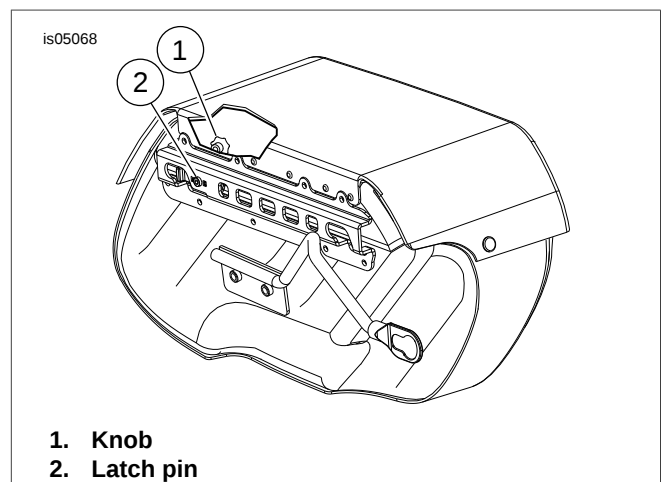

Figure 5. Saddlebag Knob and Latch
3. See Figure 5. From the inside of the saddlebag pull and rotate the knob (1) one-quarter turn and the latch pin (2) will release.